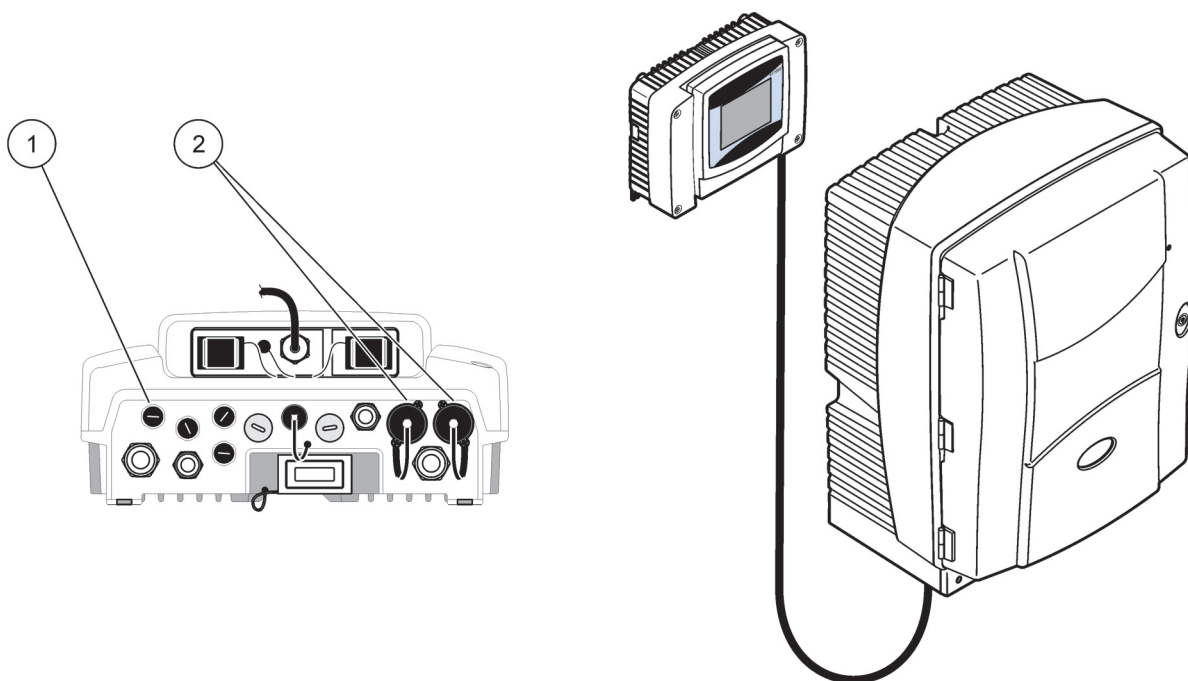

Figure 19 Connect the AMTAX sc to the sc1000 power supply
Refer to the sc1000 controller user manual for more information on connecting the data network (item 1, Figure 19).